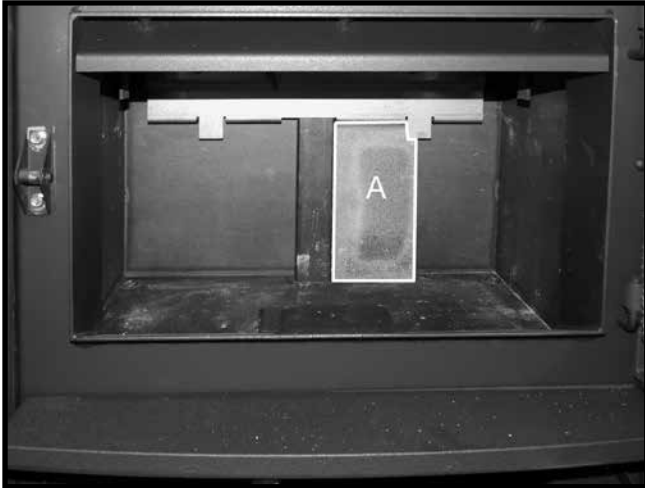

Figure 14. Installing the 1st of the rear wall bricks
1. Stand one "A" firebrick vertically behind the tab located on the brick rail. Slide the firebrick toward the center of the rear wall Figure 14.